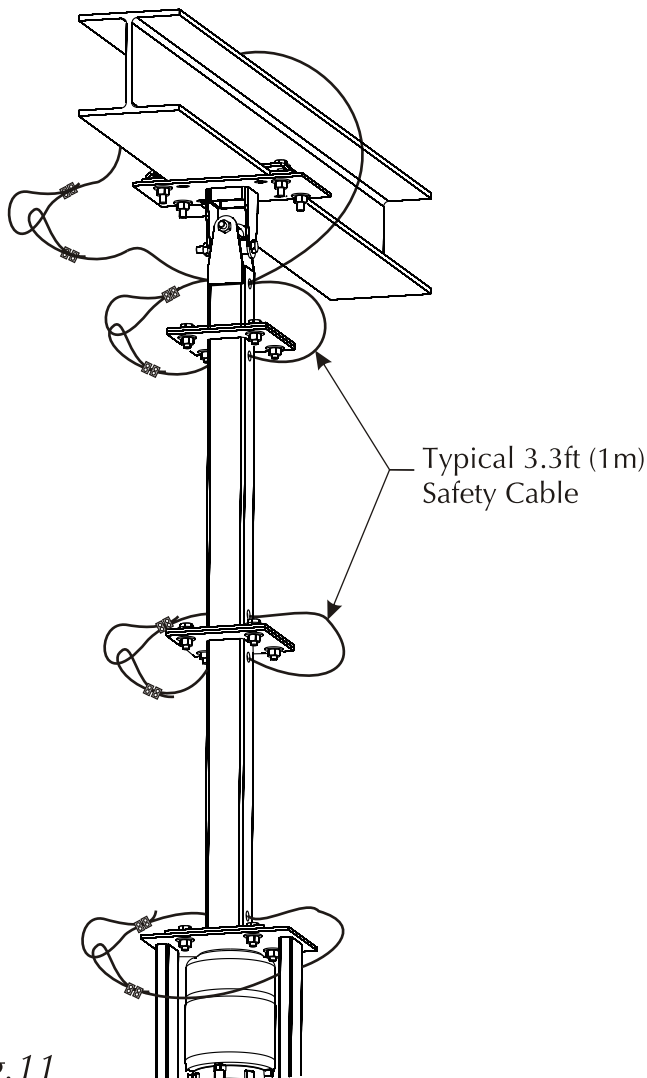

Fig.11
2. Position the safety cable as per Fig.11, loop at both ends.